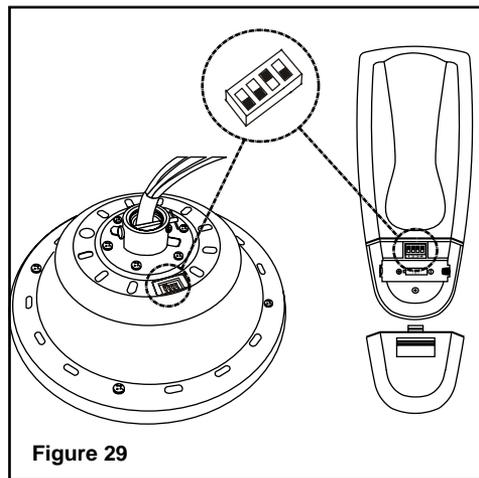

Figure 29
1. The receiver frequency selector is located on the top of the motor assembly plate as show in Fig. 29.
2. The transmitter frequency selector is located in the battery compartment as show in Fig. 29. Each frequency selector has 4 switches, you may use any number of possible combinations but you must set each switch in the transmitter to match the same switch in the receiver.